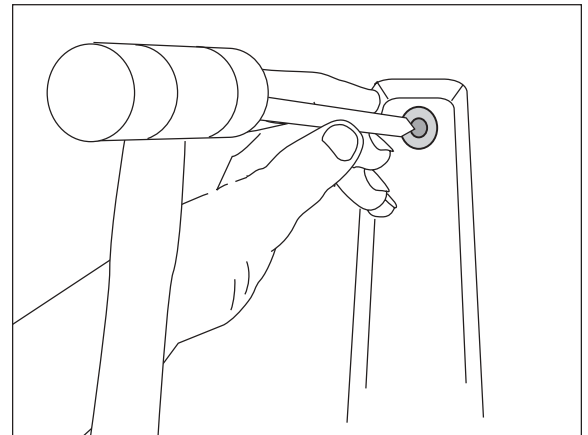

Figure 5
1. **'94 - Newer Dodge 4WD Pickups Only:** It will be necessary to remove the inner fenderwell liner on late model 4WD Dodge Trucks. This is done by carefully driving the pin through the fasteners with a center punch (Figure 5). These fasteners will be reused along with a special spacer to reattach the liner and provide clearance for the air spring. See page 9 for reinstallation instructions. Do not reinstall until after the entire system has been leak and clearance tested.